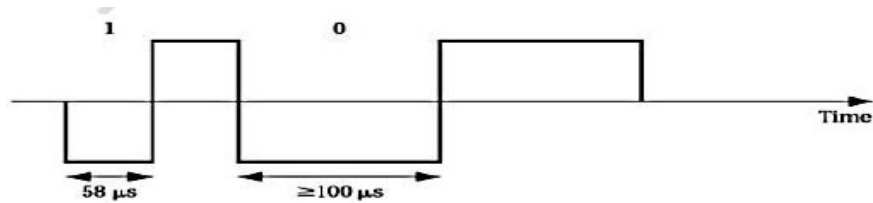

Fig 1.5.1 Bit encoding in DCC.
- The data signal swings between two voltages around the power supply voltages such as 0 and 1 as shown in Fig 1.5.1.